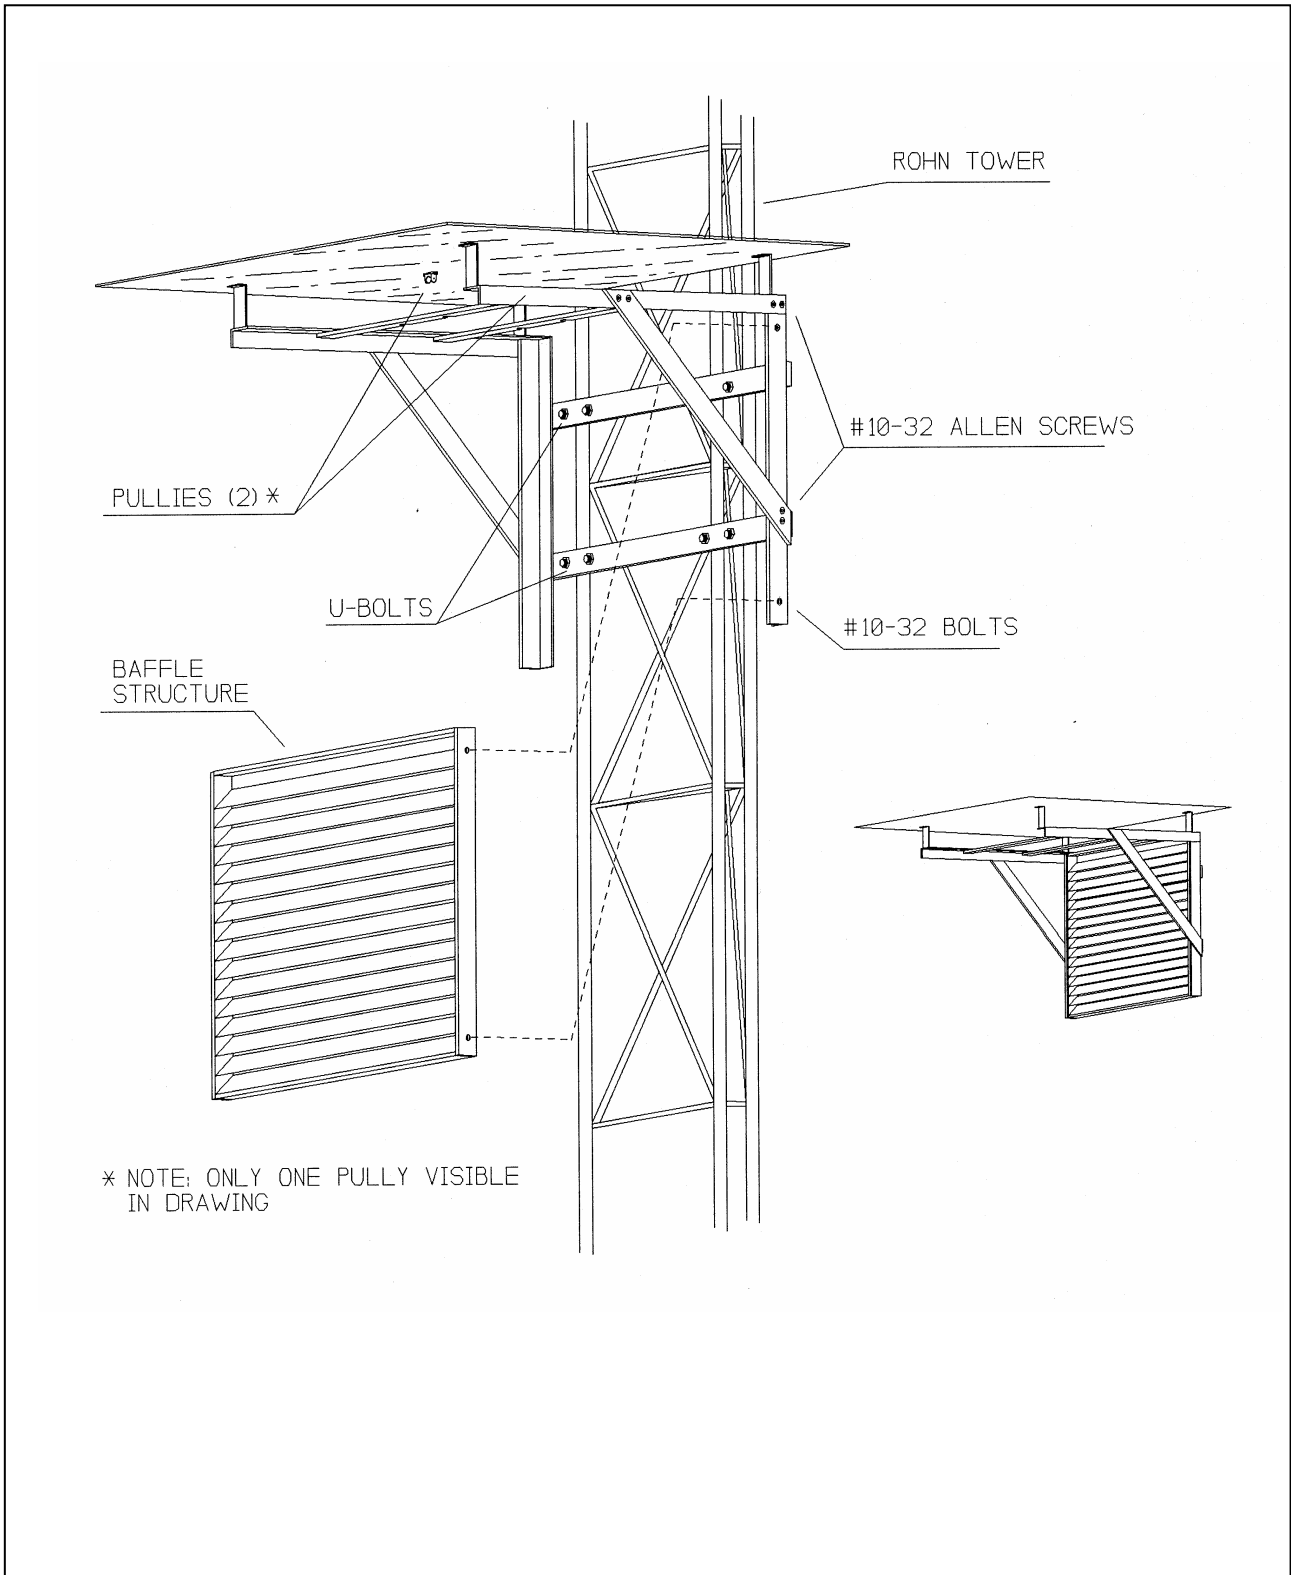
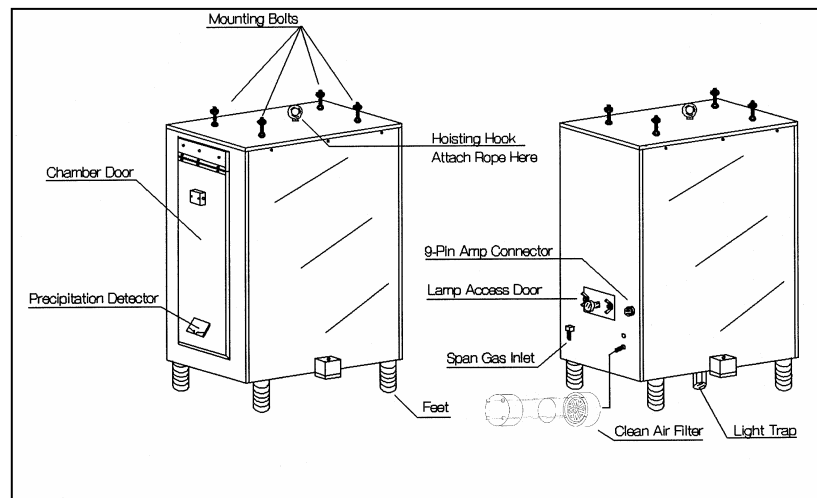

Figure 4-2. Solar Radiation and Precipitation Shield Assembly.
Figure 4-4. Nephelometer Exterior Diagram.
The shield must be assembled before installation on the tower as described below and illustrated in Figure 4-2, Solar Radiation and Precipitation Shield Assembly.
**ATTACH HOISTING ROPE** Feed the hoist rope through the two (2) pulleys on the underside of the precipitation and solar radiation shield (see Figures 4-2 and 4-3). Attach the nephelometer hoist rope attachment ring to the circular ring on top of the nephelometer (see Figure 4-4, Nephelometer Exterior Diagram).